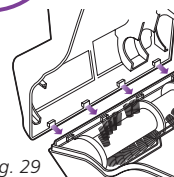

Fig. 29
- 3 To reassemble, insert the tabs on the front edge of the bottom cover into the matching holes in the top half and tilt it back down until it clicks into place. (Fig. 29)